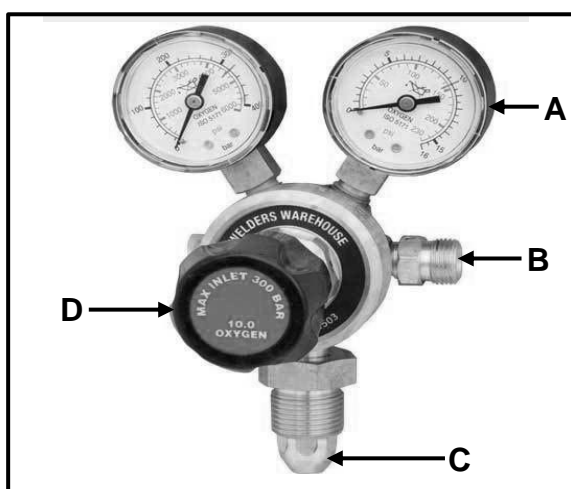

FIGURE 6.5
- 6.5 FIGURE 6.5 shows a component of gas welding equipment. Answer the questions that follow.
- 6.5.1 Identify the component shown in FIGURE 6.5. (1)